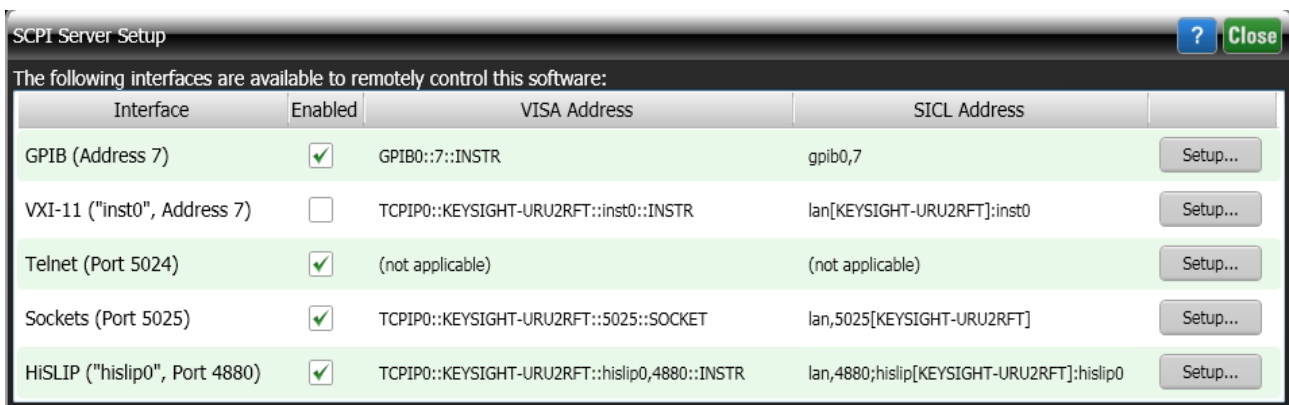

Figure 69 86100D's SCPI Server Setup Dialog Box
- 3 In the **SCPI Server Setup** dialog, confirm that the **Sockets** and **HiSLIP** interfaces are selected and enabled as shown in Figure 69.